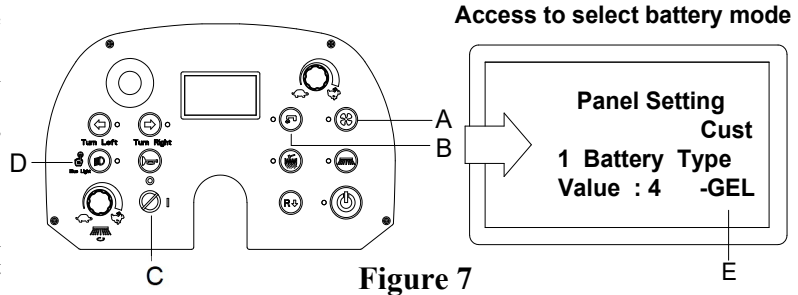
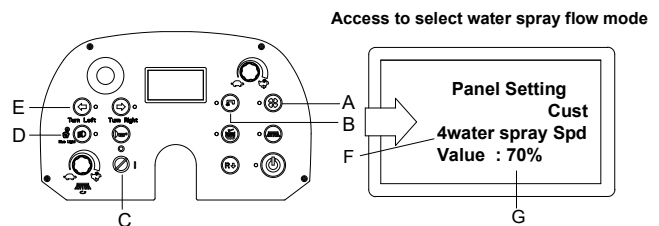

Figure 7
Figure 15
7. Press vacuum button (A, Figure 7) and pump button (B, Figure 7) at the same time.
8. Insert ignition key (C, Figure 7) and turn it to "I".
9. Several seconds later the system enters select battery mode (Figure 7).
10. Release both vacuum button (A, Figure 7) and pump button (B, Figure 7).
11. Press vacuum button (A, Figure 7) and pump button (B, Figure 7) to select battery type (E, Figure 7).
12. Press headlight button (D, Figure 7), about 1 second later the screen displays "Update OK", indicating that battery type is set up, then restart machine. (C, Figure 7).
1. Press “vacuum button” (A, Figure 15) and “pump button” (B, Figure 15) at the same time.
2. Insert ignition key (C, Figure 15) and turn it to "I".
3. Several seconds later the system enters user setting mode (Figure 15).
4. Release both “vacuum button” (A, Figure 15) and “pump button” (B, Figure 15).
5. Press “Turn Left button” (E, Figure 15) to select the Item 4 “4Water Spray Spd” (F, Figure 15).
6. Press “vacuum button” (A, Figure 15) or “pump button” (B, Figure 15) to select water spray speed value (50%, 60%, 70% ...) (G, Figure 15).
7. Press “headlight button” (D, Figure 15), about 1 second later the screen displays "Update OK", indicating that water spray flow is set up, then restart the machine. (C, Figure 7).